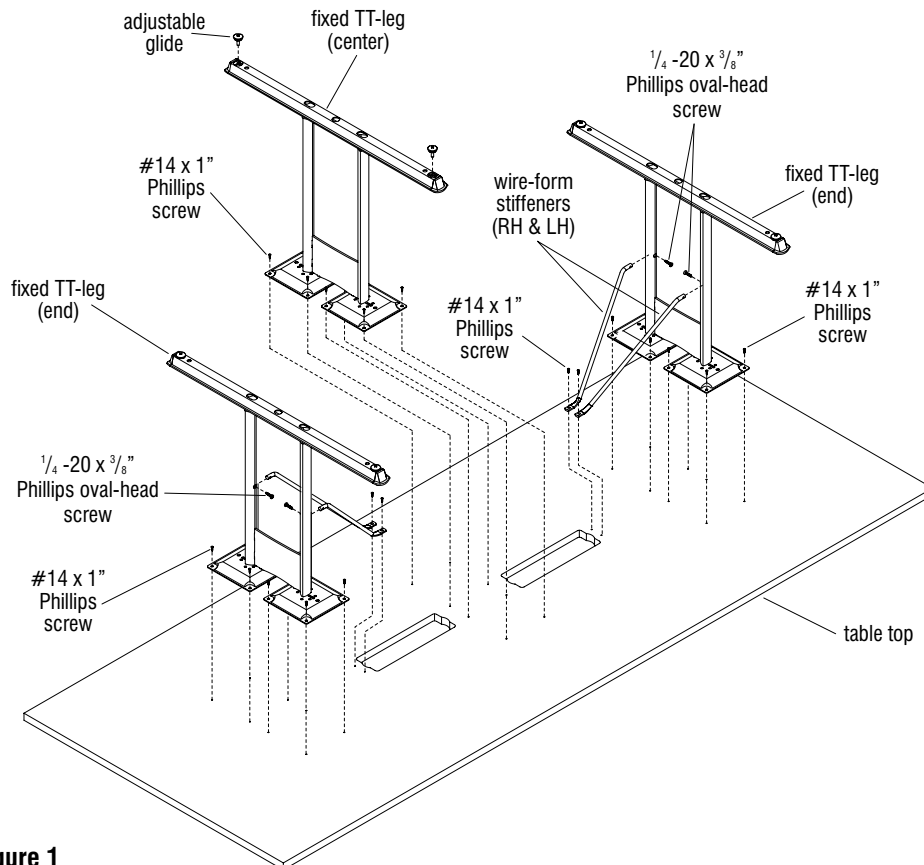

Figure 1
whether the table top requires two, three, four or five T or TT-legs (Figure 1).
the mounting holes in each end TT-leg, but do not tighten completely (Figure 1).
3. Position right- and left-hand wireform stiffeners into holes in TT-legs and secure using  $\frac{1}{4}$ -20 x  $\frac{3}{8}$ " Phillips screws provided. Next, align the stiffener's table mounting holes over the pre-drilled holes in the table top underside and secure using #14 x 1" Phillips screws. Tighten all screws securing stiffeners and table legs to table top underside at this time (Figure 1).
4. If a "center" TT-leg is required, install over pre-drilled holes using eight #14 x 1" Phillips screws (Figure 1).
5. Install two adjustable glides into each leg assembly by hand, or by using a drill-driver and #3 Phillips bit (Figure 1).
6. With the assistance of a second person, carefully turn table to the upright position. Adjust glides in or out to accommodate uneven floor conditions (Figure 1).